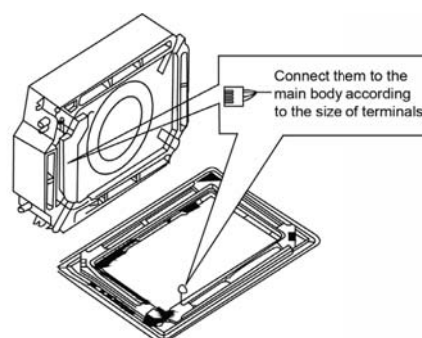

Fig.11
(9) Wire the swing flap motor as shown in Fig11.